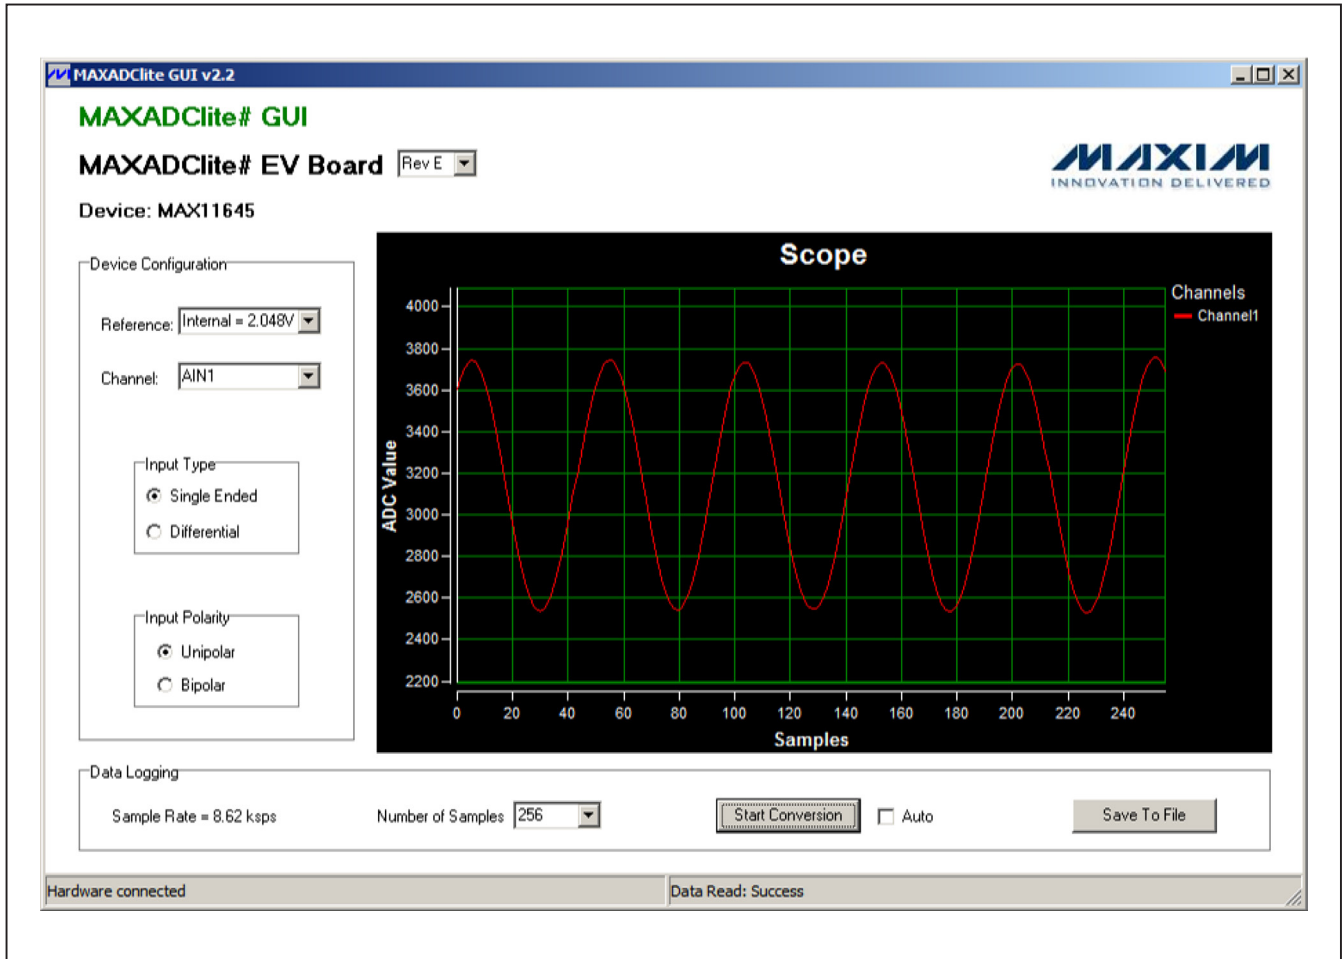

Figure 1. MAXADClite GUI Application
- 6) Next, select the **Number of Samples** from the **Data Logging** group box drop-down list. Once all options are set, press the **Start Conversion** button to proceed (Figure 1).